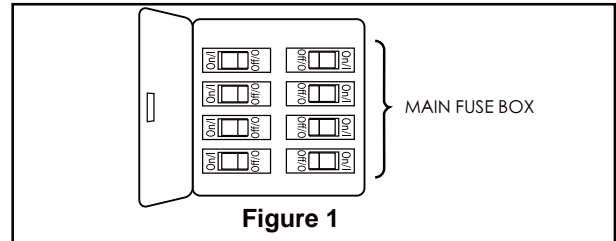
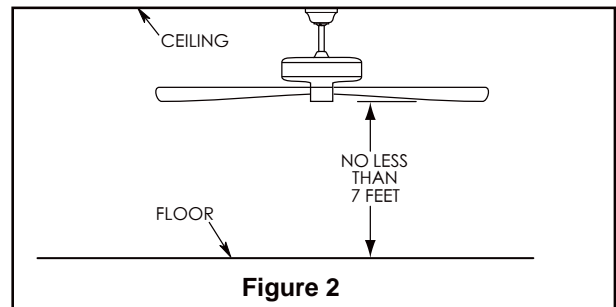

Figure 1
Figure 2
Your new ceiling fan will require a grounded electrical supply line of 120 volts AC, 60 HZ, 15 Amp Circuit. Electrical code requires use of a fan-rated outlet box to support the extra weight and motion associated with a ceiling fan. A fan-rated box will be labeled as such and typically supports up to a 70lb ceiling fan. Fan-Rated Outlet Boxes vary in ratings and design. Ensure the ratings of your ceiling fan outlet box meet the requirements for the ceiling fan being installed. Figure 1, Figure 2 and Figure 3 depicts different structural configurations that may be used for mounting the outlet box.
Low-profile use (Figure 1)
Deep-profile use (Figure 2)
- 1. Remove the hanger ball portion from the downrod/hanger ball assembly by loosening the set screw in the hanger ball until the ball falls freely down the downrod. Remove the pin from the downrod, then remove the hanger ball. Retain the pin and hanger ball for reinstallation in Step 6. (Figure 1)
- 2. Remove the hairpin clip and clevis pin from the bottom of the downrod. Retain the pin and clip for reinstallation in Step 4. (Figure 2)
To avoid possible electrical shock, be sure electricity is turned off at the main fuse box before hanging. (Figure 1)
The fan must be hung with at least 7' of clearance from floor to blades. (Figure 2)
1. To set the code on receiver unit, slide dip switches to the same positions as set on the remote. (Figure 1)
To avoid possible electrical shock, be sure electricity is turned off at the main fuse box before wiring (Figure 2).
2. Securely attach and tighten the canopy screw cover over the shoulder screws in the hanger bracket utilizing the keyslot twist-lock feature. (Figure 2)
2. Position the blade over the blade holder with threaded posts showing. Make sure the bottom edge of the blade is fully seated against the blade holder. With a phillips screwdriver, tighten 3/16"-24 washer head screws and fiber washers to secure the blade to the blade holder. (Figure 2)
2. Assemble the light plate assembly to the adaptor plate of the motor assembly using the two key slots in the light plate assembly. Replace the third screw and secure all three screws. (Figure 2)
- 2.** Restore electrical power to the outlet box by turning the electricity on at the main fuse box. (Figure 2)